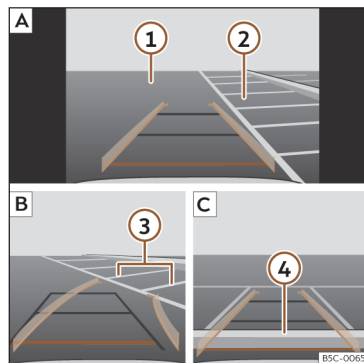

Fig. 186 Display on the Infotainment system screen.: parking with reverse assist.
Key to the **Fig. 186**:
- Place the vehicle in front of the parking space >>> **Fig. 186** ② **A**.
- Reverse while turning the steering wheel so that the yellow lines enter the parking space. The green and yellow lines must match the side boundary lines ③ **B**.
- Stop the vehicle when the red line has reached the rear boundary ④ **C**.